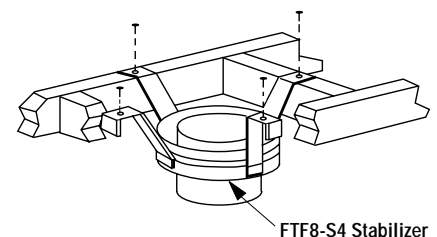

Figure 28
Install the Model FTF8-S4 stabilizer by fitting inner section down into respective section of proceeding flue pipe and locking outer stabilizer section into place over the outer chimney pipe. Position for proper clearance through framed opening and nail straps securely (under tension in "shear") into place on framing. Use 8d nails. Attach successive lengths of chimney pipe directly to stabilizer using same techniques as described in Step 4 (**Figure 28**).
Step 1. Use Offset Chart to determine amount of horizontal offset (A) and height (B) for various chimney section assemblies.
Step 3. Use Elevation Chart as job estimator only. Add necessary firestop spacers and stabilizers as required. Firestop spacers must be used as shown in *Figures 22 and 23* and stabilizers as shown in *Figure 28*.